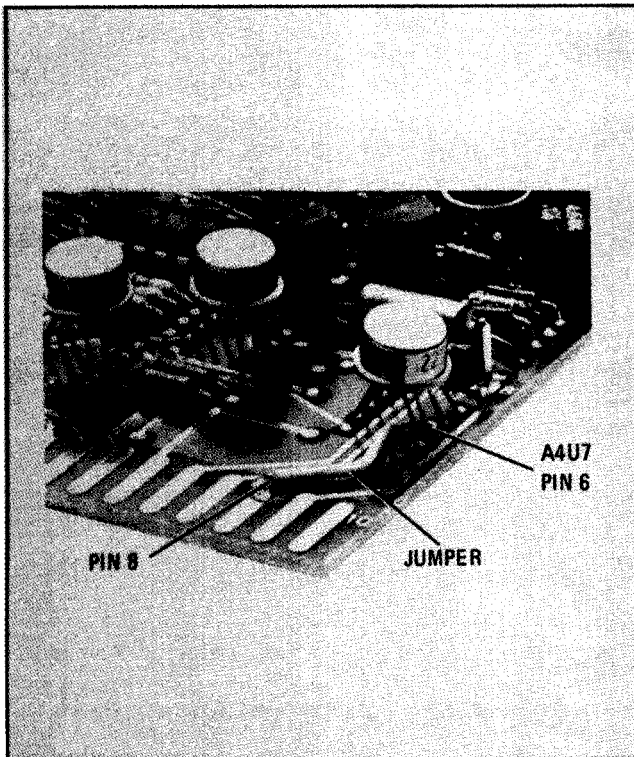

Figure B-1. Modified A4 Board
3. Connect an insulated 3 inch jumper wire between A4U7 pin 6 and pin 8 on the A4 board connector. Refer to Figure B-1.